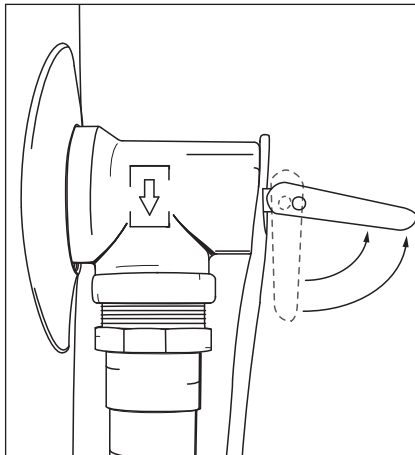

Figure 52 - T&P Relief Valve
- At least annually, inspect the T&P Relief Valve and discharge pipe for damage caused by corrosive water conditions and mineral deposits. Operate the T&P Relief Valve manually to ensure the waterways are clear and the valve mechanism moves freely (see Figure 52). Before operating the valve manually, check that it will discharge in a place for secure disposal.